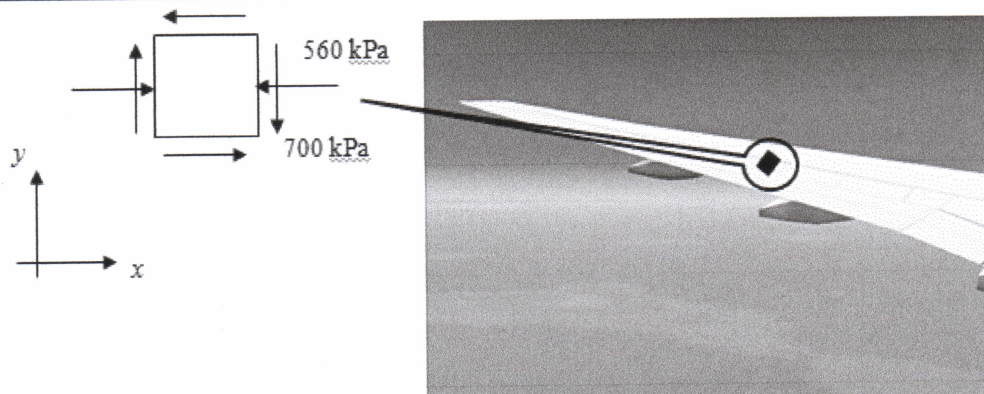

Figure Q3
- Q3.** The state of stress of a point on the upper surface of the airplane wing is shown on the element as in **Figure Q3**. Determine: